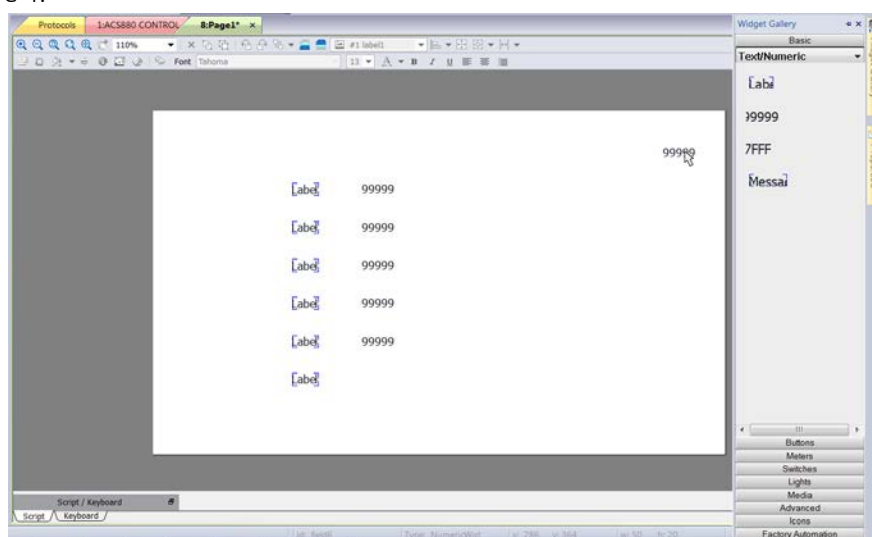

Figure 4- Adding controls to the HMI page
- 7.9. Drag six labels and six numeric controls from the Widget gallery to the page as shown in figure 4.